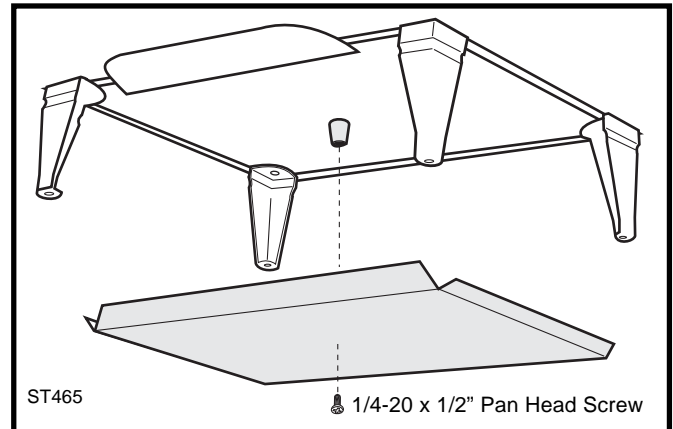

Fig. 25 Attach the Bottom Heat Shield to the boss in the center of the stove bottom.
1. Remove the 1/4-20x 1/2" phillips screw from the central mounting boss in the stove bottom. (Fig. 25)